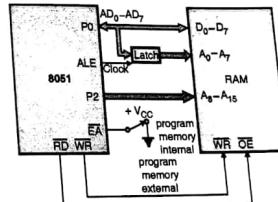

Fig. 8.2.6 : Accessing external data memory
- Fig. 8.2.6 shows data is accessed from external data memory.